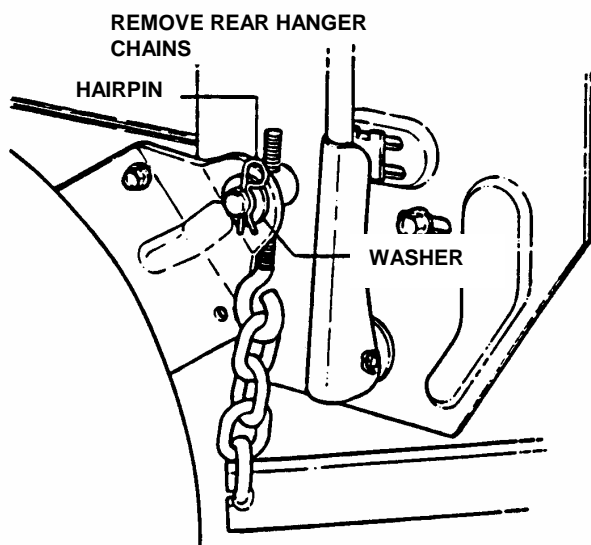

FIGURE 4.5
9. Readjust rear hanger chain pivots to align with holes in support brackets. See Figure 4.5.
2. Turn each hanger pivot the same number of rotations on the eyebolt to raise or lower the rear of the deck. See Figure 4.5.